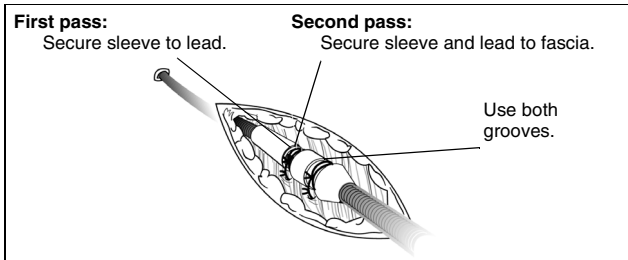

Figure 14. Using the sleeve with the percutaneous implant technique.
1. Peel back the introducer sheath and slide the suture sleeve deep into the tissue (Figure 14).